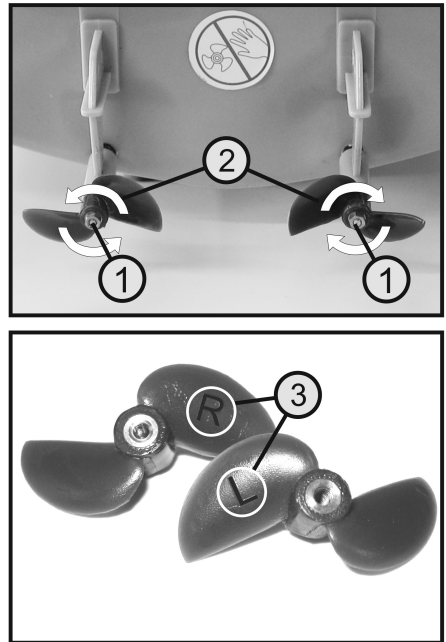

Figure 13
Then turn the propeller (2) off the shaft. To remove the left propeller, turn it off to the left. To remove the right propeller, turn it off to the right (see arrows in Figure 13).